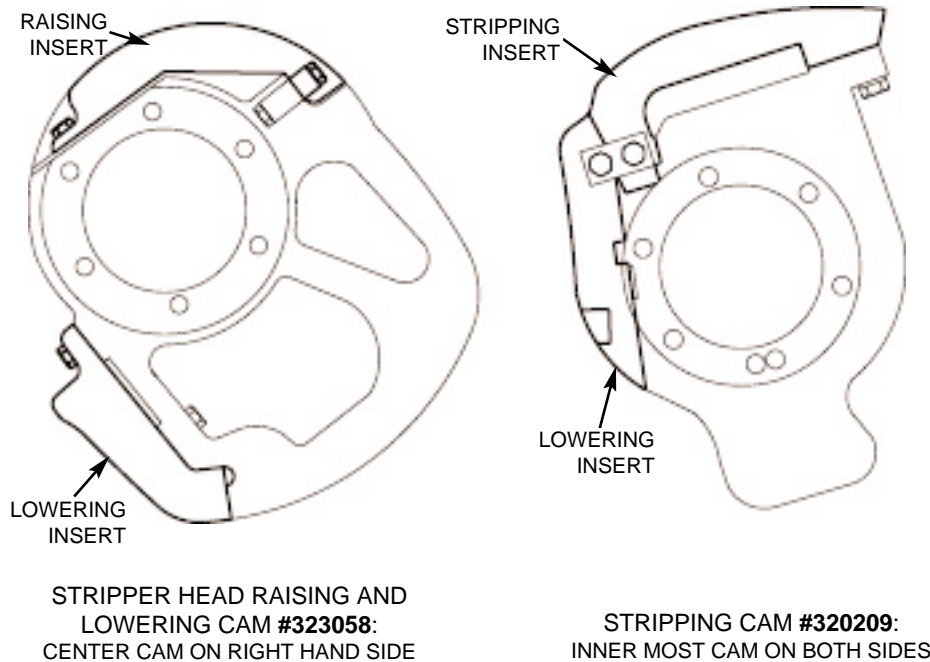

Figure 4.11 CAM INSERTS.
- 4.1.4 Install stripping cam insert **# 320209** on each side of the machine and one stripper head raising cam insert **# 323058** on the right side of the machine (see figure 4.11).